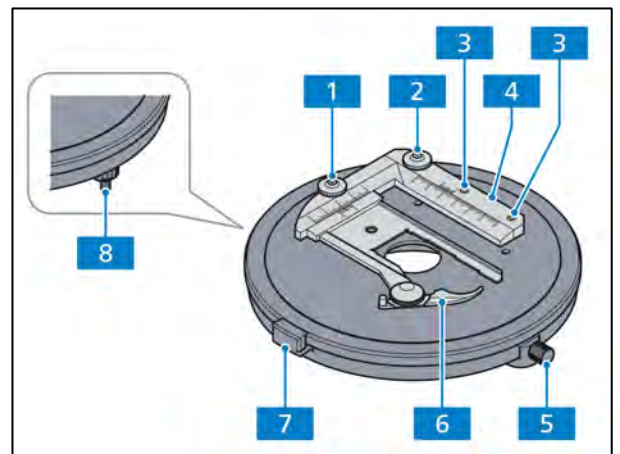

Fig. 2-15 Pol rotary stage
- The Pol rotary stage for holding and positioning specimens with specimen guide (Fig. 2-15/4) and specimen holder (Fig. 2-15/6) accommodates standard 45x25 mm slides and 75x25 mm (3"x1").
- 360° rotation with lock (use knurled screw to lock) (Fig. 2-15/5).
- Click stop (Fig. 2-15/7) every 45°; enabled or disabled via the control knob (Fig. 2-15/8).
- The specimen guide (Fig. 2-15/4) can be removed by unscrewing the two clamp screws with an Allen wrench (AF 2), Fig. 2-15/3; two cylindrical pins on the underside serve as orientation for mounting the specimen guide on the rotary stage).
- The specimen guide is equipped with a specimen holder that can be shifted in the X and Y directions using the coaxial knurled knobs (Fig. 2-15/2 and 1). The shifts in the X and Y directions can be read off the respective Vernier scale.